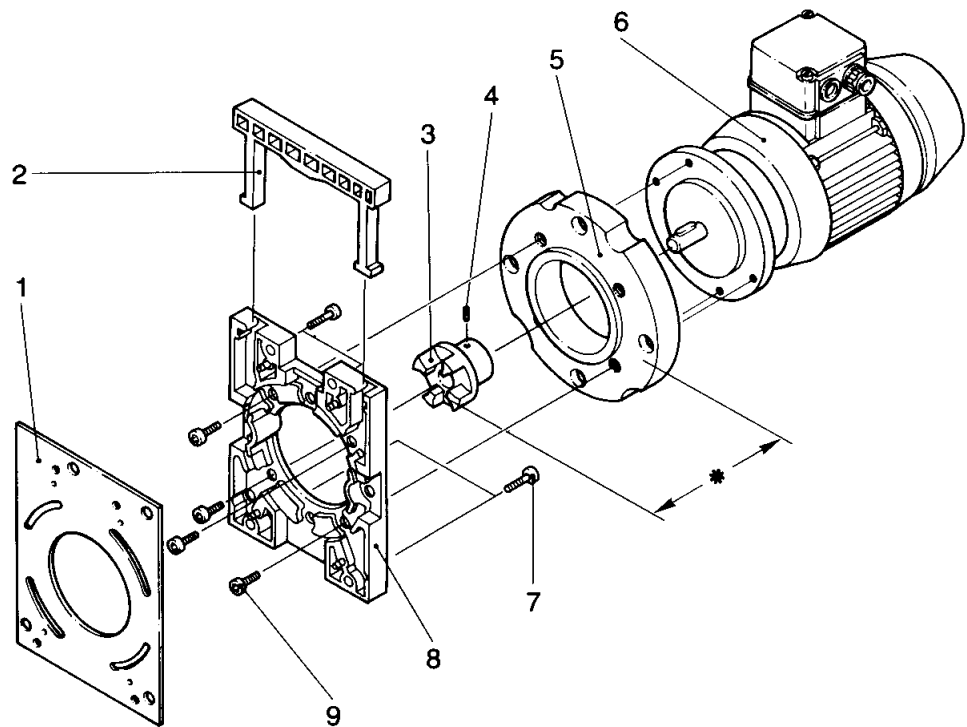

Fig. 11 Disassembly and reassembly of the electric motor
**Key to Fig. 11**
In the case of 60 Hz motors (USA versions) with adapter flange the coupling must not be pushed on to the shaft right up to the stop. On the other hand if it is not pushed on far enough the pump module may be damaged during operation. Push the coupling on in such a way that the distance between the front end of the coupling (11/3) and front side of the adapter flange (11/5) amounts to  $41.3 \pm 0.8$  mm ( $1 \frac{5}{8} \pm \frac{1}{32}$  inch) (see Fig. 11). The adapter flange (11/5) is screwed to the motor flange with four additional screws.